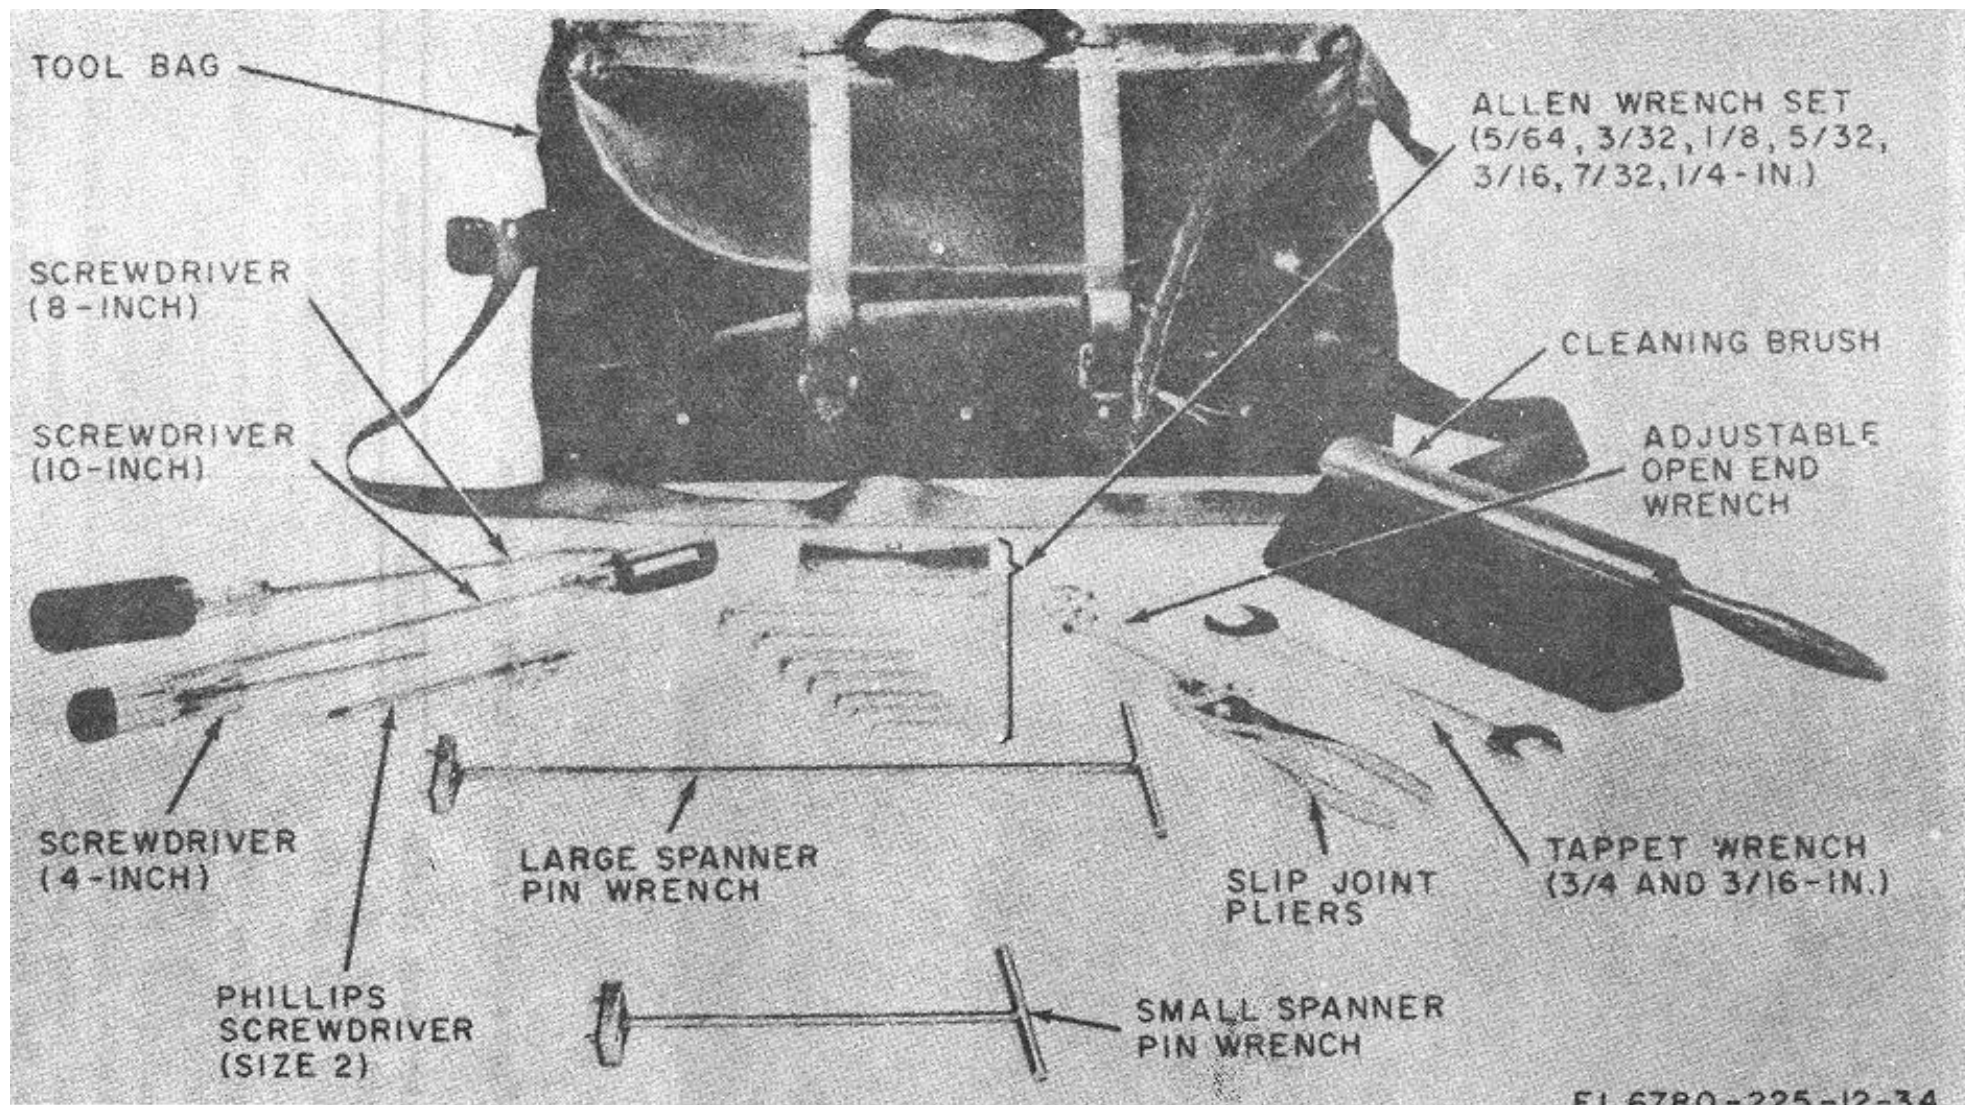

Figure 1-14. Toolkit
*m. Tool kit.* The tool kit (fig. 1-14) is used for organizational maintenance of the darkroom.